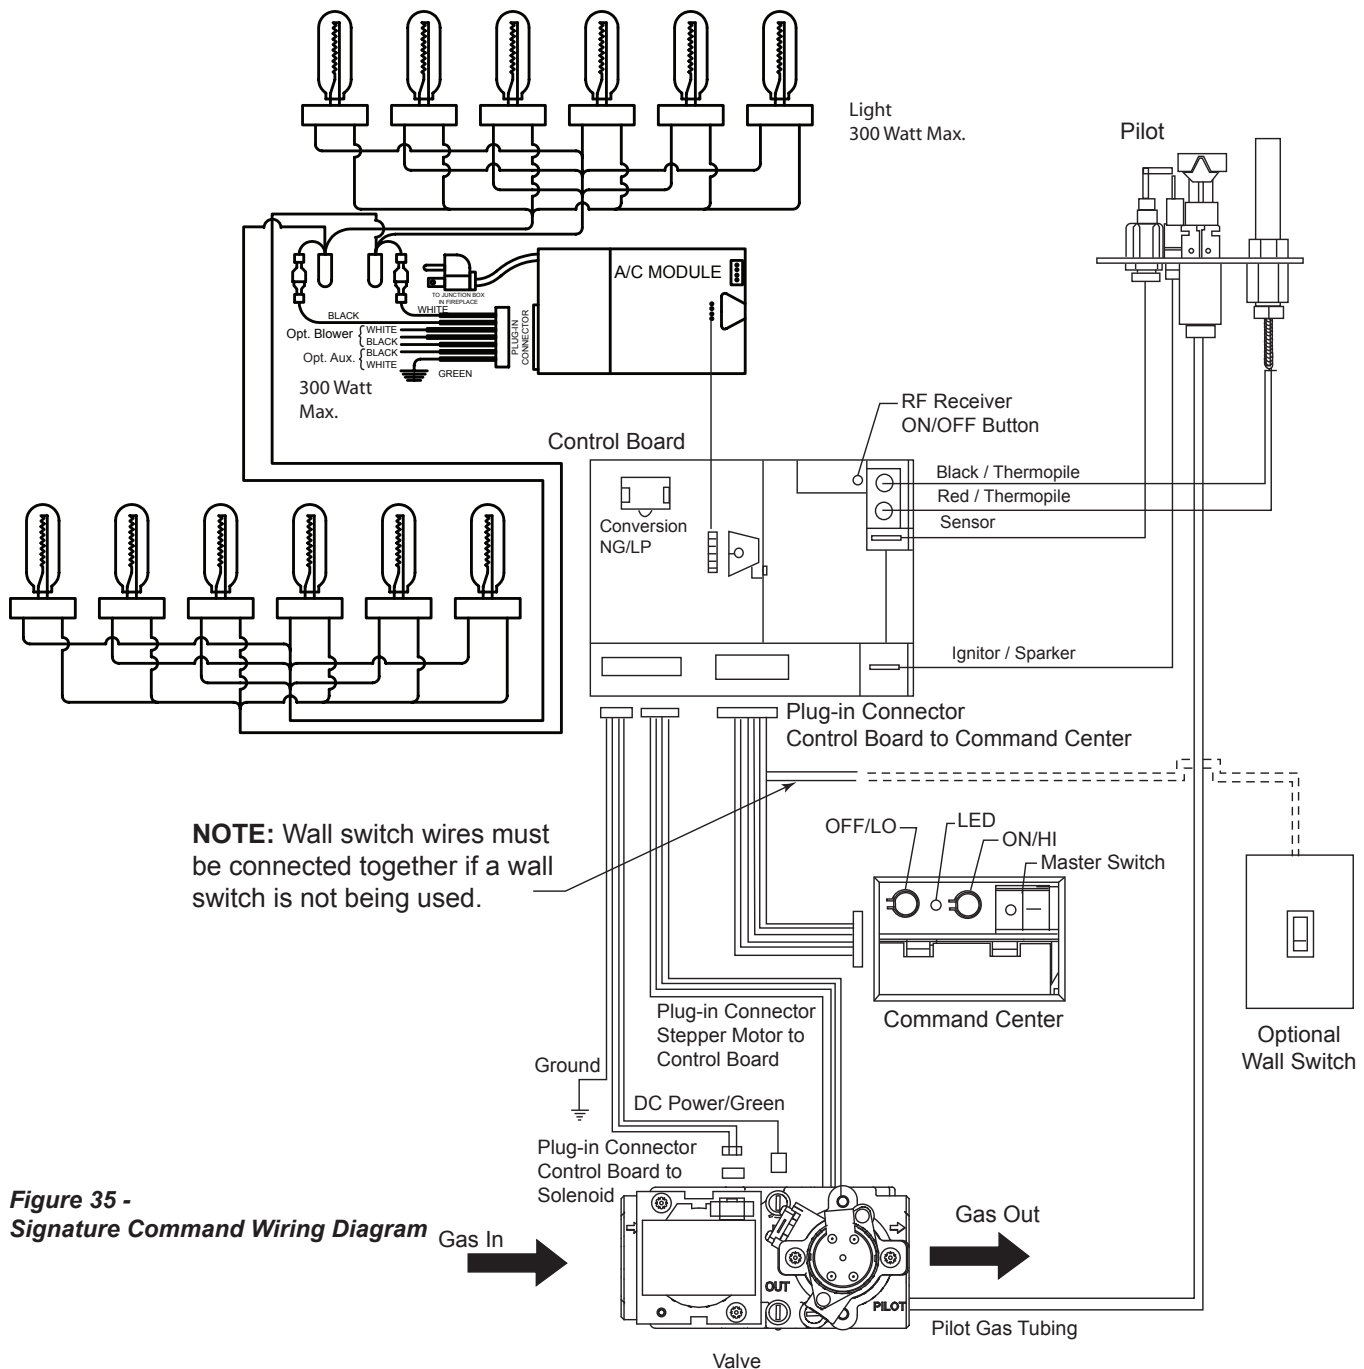

**Figure 35 -
The wall switch wire connection is located off the 2 ft. wire harness from the control box to the command center. *Figure 35*. The connection is labeled "Wall Switch". Unplug the male and female connectors and connect the two (2) low voltage wires provided. Run wire to desired location on wall. Up to 50 ft. of 18 ga. wire may be used if necessary. Attach wires to wall switch. Mount the wall switch in to junction box and screw on cover.